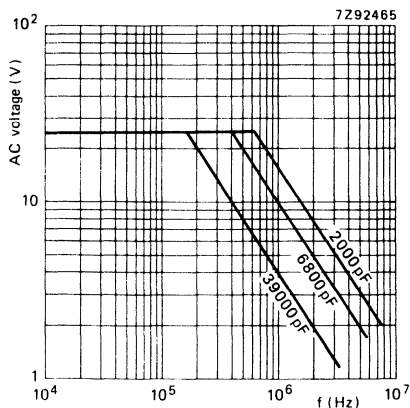

Fig. 5 Maximum AC voltage (RMS value) as a function of frequency at $T_{amb} \leq 55 \text{ }^\circ\text{C}$, for $U_R = 63 \text{ V}$.
* At $T_{amb} \leq 70\text{ }^{\circ}\text{C}$ ($\leq 55\text{ }^{\circ}\text{C}$ for 63 V version) the maximum permissible sinusoidal voltage can be found in Figs 5 to 8.